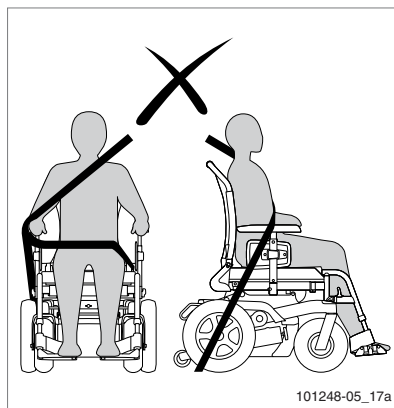

Figure 16
- Ensure that the seat belt is not obstructed from having contact with the body by wheelchair parts, such as armrests or wheels (figure 16).